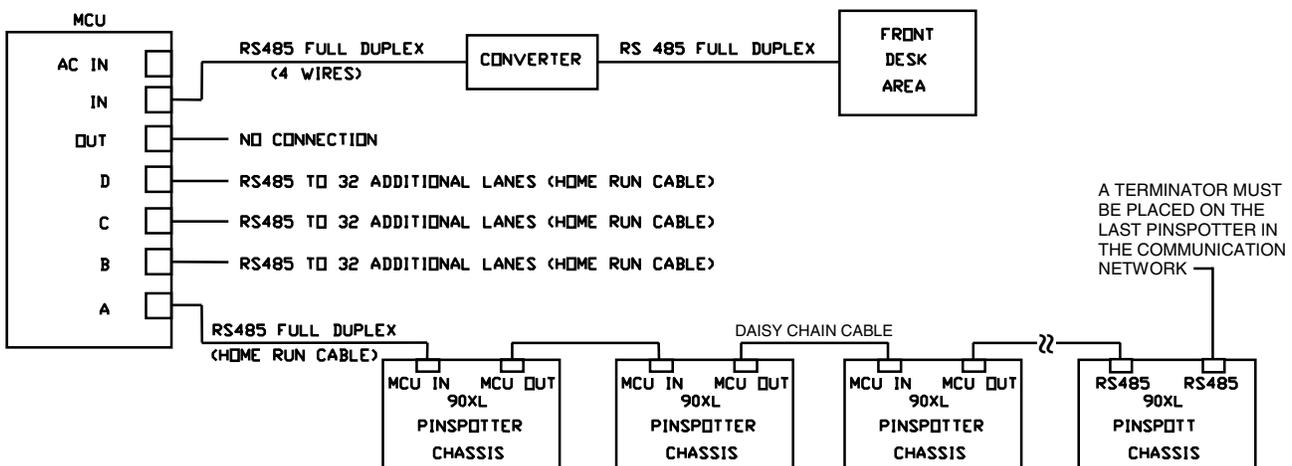

Figure 1, Communications Connections
Communications Ports (refer to Figure 1)
2. Install the two mounting screws (1-inch, #10 slotted hex head) on a horizontal line 4 inches apart (See Figure 1). Leave the screw head raised approximately 1/4 inch.